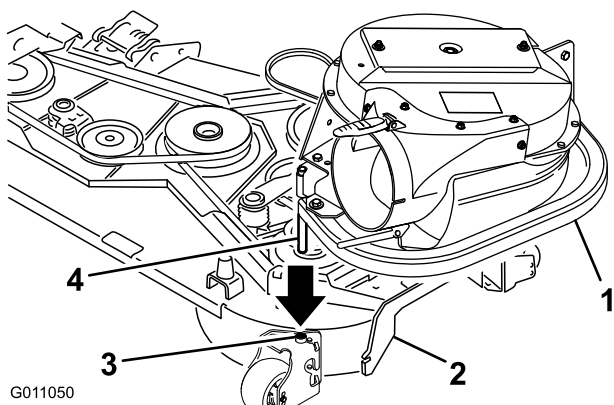

Figure 16
2. Slide the blower assembly peg into the pivot hole (Figure 16).